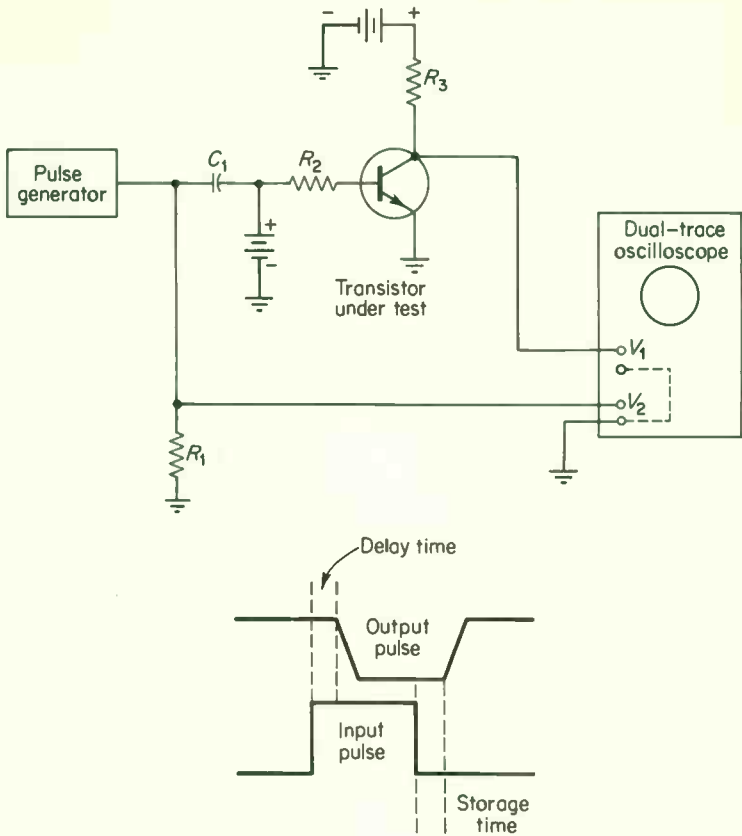

Fig. 9-7. Testing transistor switching time.
As shown in Fig. 9-7, the transistor is tested by applying a pulse to the base of the transistor under test. This same pulse is applied to one of the oscilloscope vertical inputs. The transistor collector output is applied to the other oscilloscope vertical input (inverted  $180^\circ$  by the common-emitter circuit). The two pulses are then compared as to rise time, fall time, delay time, and storage time. The transistor output pulse characteristics can then be compared with the transistor specifications.
1. Connect the equipment as shown in Fig. 9-7.
6. Measure the rise time, fall time and delay time along the horizontal (time-calibrated) axis as shown in Fig. 12-1. Storage time measurement is shown in Fig. 9-7.